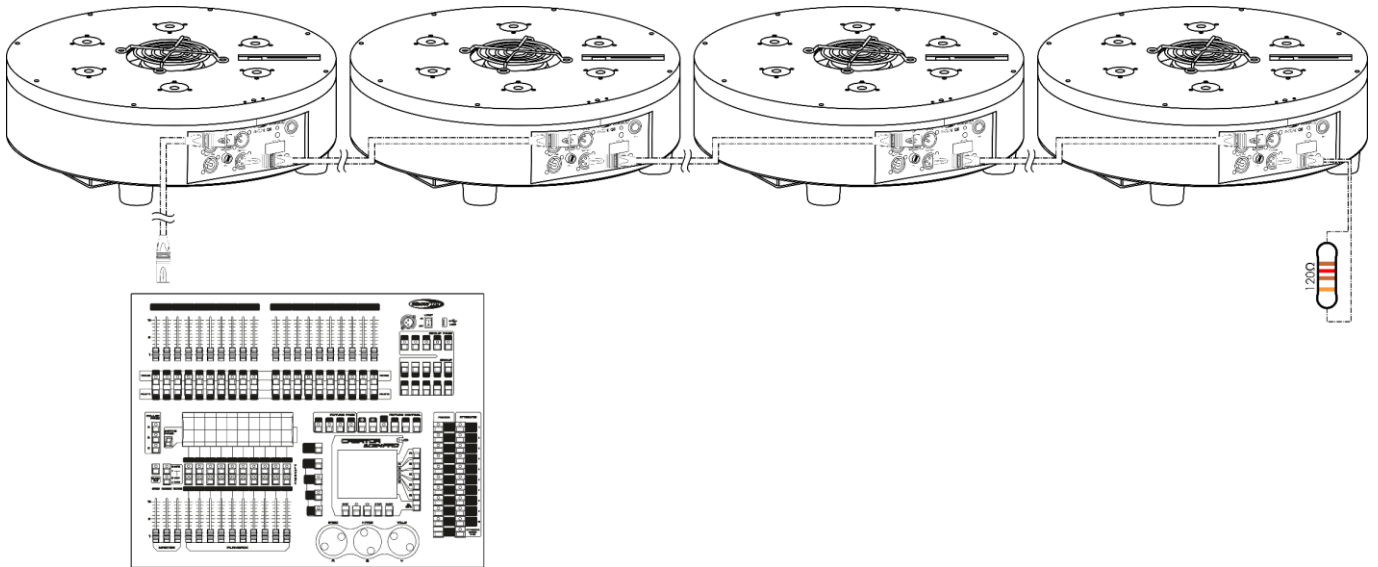

Fig. 04
- 03) Link the devices as shown in Fig. 04. Connect the first device's DMX "out" socket with the second device's "in" socket, using a DMX signal cable. Repeat this process to link the second, third, and fourth devices.